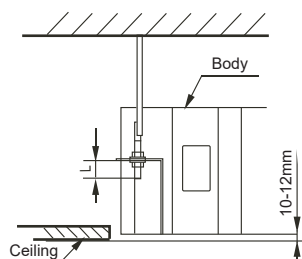

Fig.5-8
- Adjust the position to ensure the gaps between the body and the four sides of ceiling are even. The body's lower part should sink into the ceiling for 10~12 mm (refer to fig.5-8)
- In general, L is half of the screw length of the installation hook.(refer to fig.5-8)